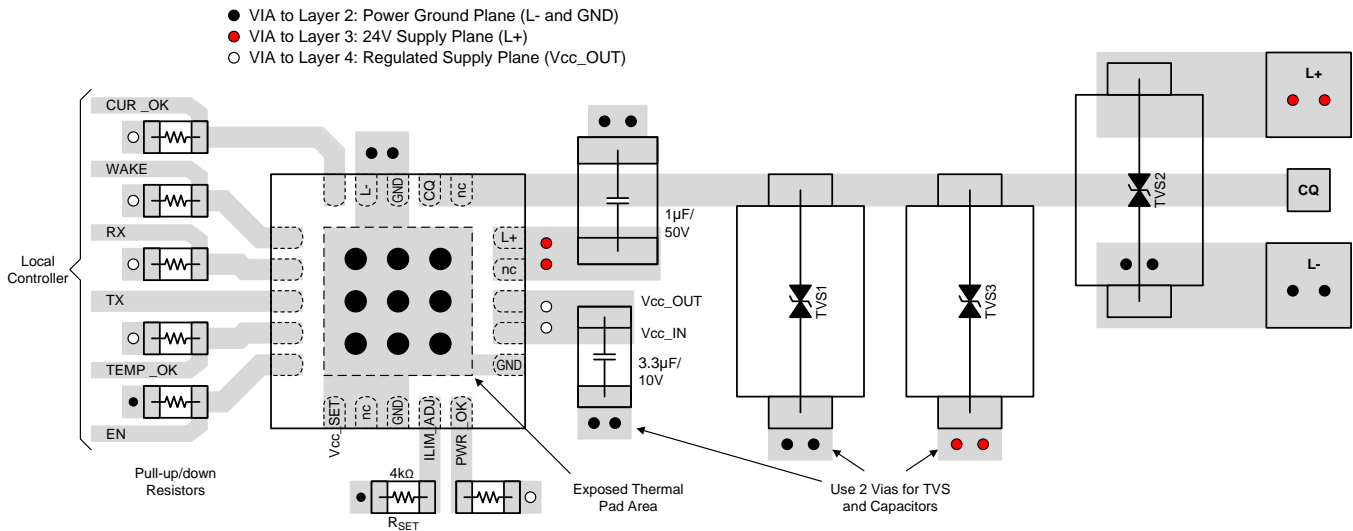

Figure 19. Layout Example
- The optimum placement is closest to the transceiver's L+ and L– terminals to reduce supply drops during large supply current loads. See Figure 19 for a PCB layout example